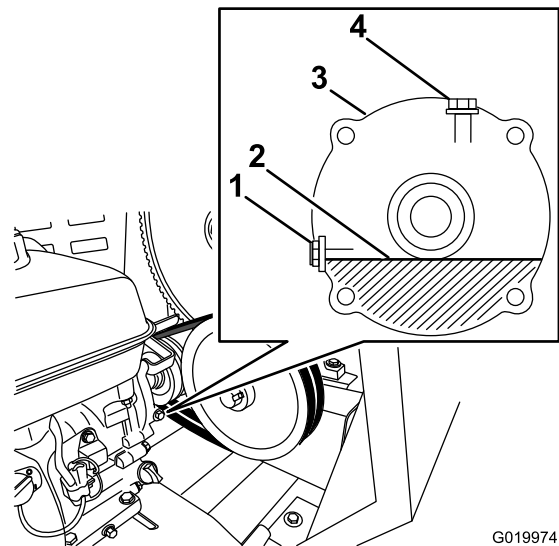

Figure 58
5. Locate the reduction case between the engine and the engine pulley (Figure 58).
7. Remove the oil-level-check bolt and washer from the oil-level port (Figure 58).
- A. Remove the filler bolt and washer from the filler port on the top of the reduction case (Figure 58).
- C. Install the filler bolt and the washer to the filler port of the reduction case, and tighten the filler bolt (Figure 58).
8. When the oil level is flush with the threads at the bottom of the oil-level port, install the oil-level-check bolt and washer to the port, and tighten the bolt (Figure 58).
11. Slowly pour the specified oil into the fill port until the oil level is level with the threads at the bottom of the oil-level port (Figure 58).